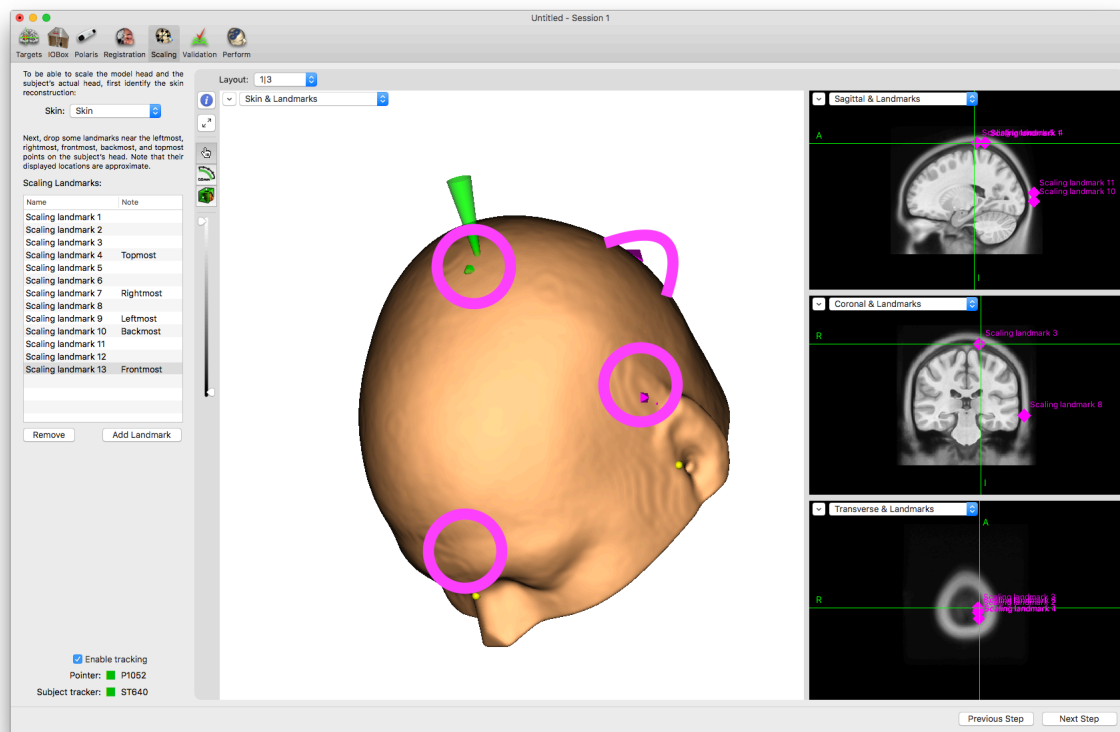

Fig. 16-6
- Record landmarks on the top of the head by gently touching the top of the head with the pointer and clicking Add Landmark (Fig. 16-6). Drop several landmarks so Brainsight can use the topmost of these for the scaling calculation (and you do not need to be very precise since there will be multiple landmarks to choose from).